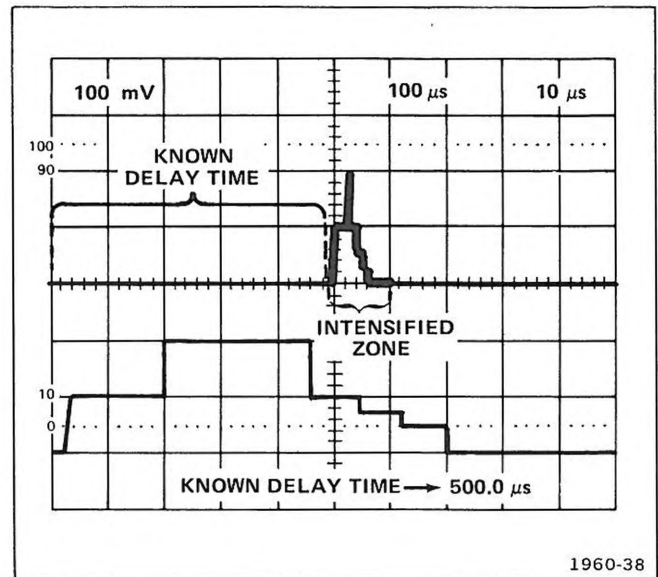

Fig. 1-12. Examining an event that occurs within a selected time interval after a known delay time in the delay-time mode.
*For a better look at the delayed (B) sweep waveform, set the mainframe to the B horizontal mode and the amplifier-unit deflection-factor to increase the display amplitude. Do not change the 7B85 TIME/DIV setting.*
- b. Set the appropriate triggering, position, deflection-factor, and sweep-rate controls for the desired dual-trace display. See the example in Figure 1-12.
*If there is excessive jitter in the delayed (B) sweep display, refer to the Triggered Delayed-Sweep Magnification discussion.*
- d. Set the delayed (B) sweep rate (i.e., the intensified zone length) for the desired time interval after the delay time selected in part c. Multiply the delayed (B) sweep rate by 10 to determine the actual displayed delayed (B) sweep time interval. See the example in Figure 1-12.
- e. Observe the magnified event to be examined on the delayed (B) sweep.